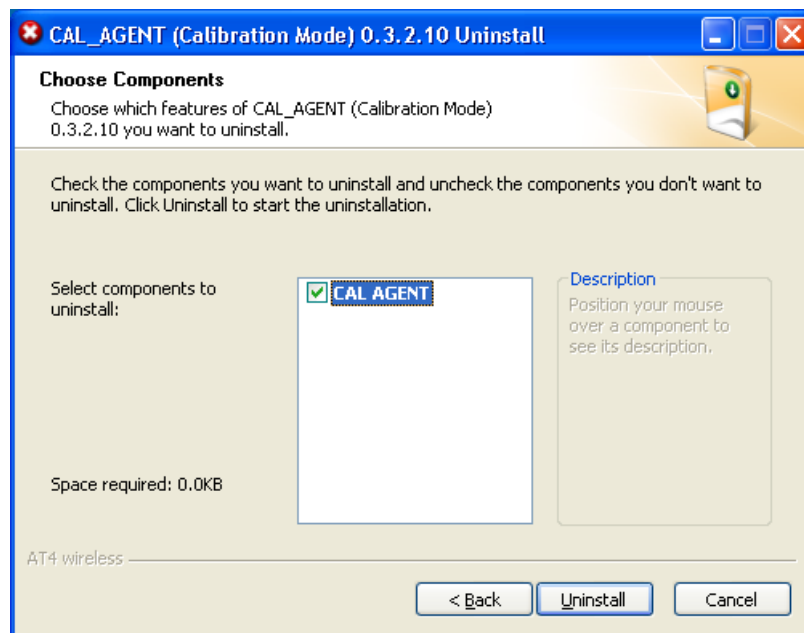

Figure 2-42: CAL_AGENT Uninstall Wizard – Choose Components
4. In the *Choose Components* window shown in Figure 2-42, click **Uninstall**.